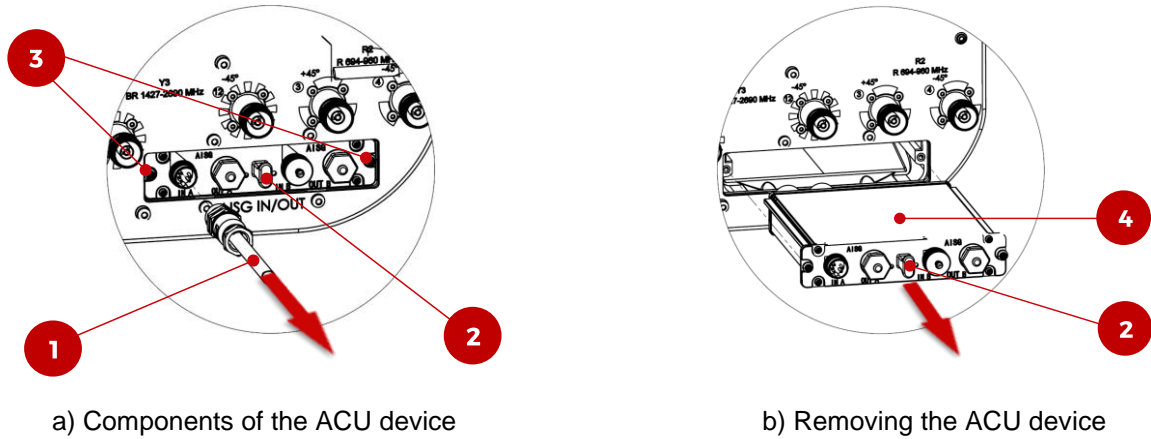

Figure 4: Visual location of the ACU on an antenna
- Remove the AISG cable(s) [1] (Figure 4 - a) from the AISG connector(s).
- Untighten the 2 screws [3] (Figure 4 - a) progressively and alternatively, by maintaining the ACU through the [2] handle. The type of those screws depends on the ACU model. Please refer to Table 2 for using the appropriate wrench (cruciform or Torx).